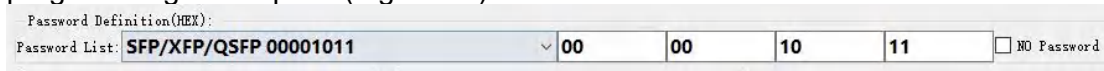

Figure 63
3.1.1 Select the configuration file “SFP/XFP/QSFP 00001011” corresponding to the QSFP-DD 400G DR4 password of 00001011 (Figure 63)